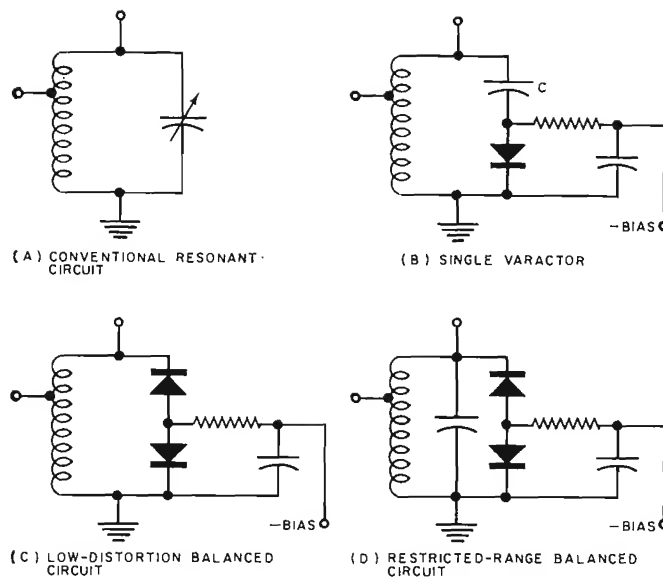

Fig. 3. The use of varactors in various tank circuits.
One obvious application consists of using a varactor as a replacement for a conventional variable capacitor in a resonant circuit, as shown in Fig. 3. To allow proper biasing, a blocking capacitor (C) is added in series with the varactor. Biasing is by way of a high-value resistor and an r.f. bypass. As the d.c. bias on the varactor is changed, the depletion layer capacitance changes, which in turn changes the resonant frequency. If capacitor C in Fig. 3B is much larger than the junction capacitance, the series equivalent capacitance will essentially be that of the varactor itself.